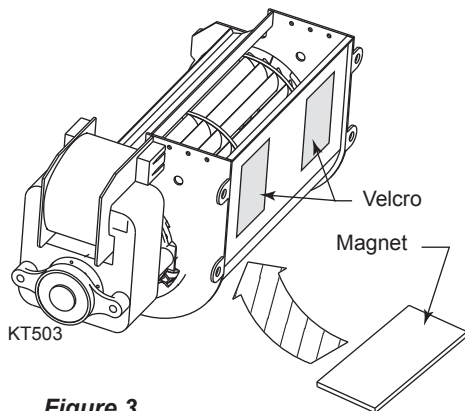

Figure 3
7. Two (2) magnetic strips and velcro are used to insulate blower vibration when using mounting brackets. Leave these in place. (Fig. 3)